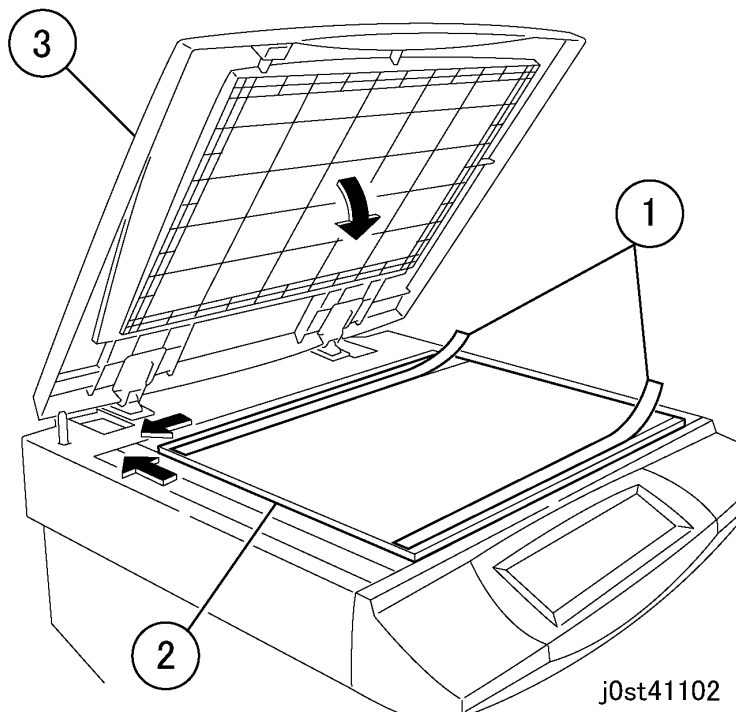

Figure 2 Installing the Platen Cushion (j0st41102)
1. Install the Platen Cushion. (Figure 2)